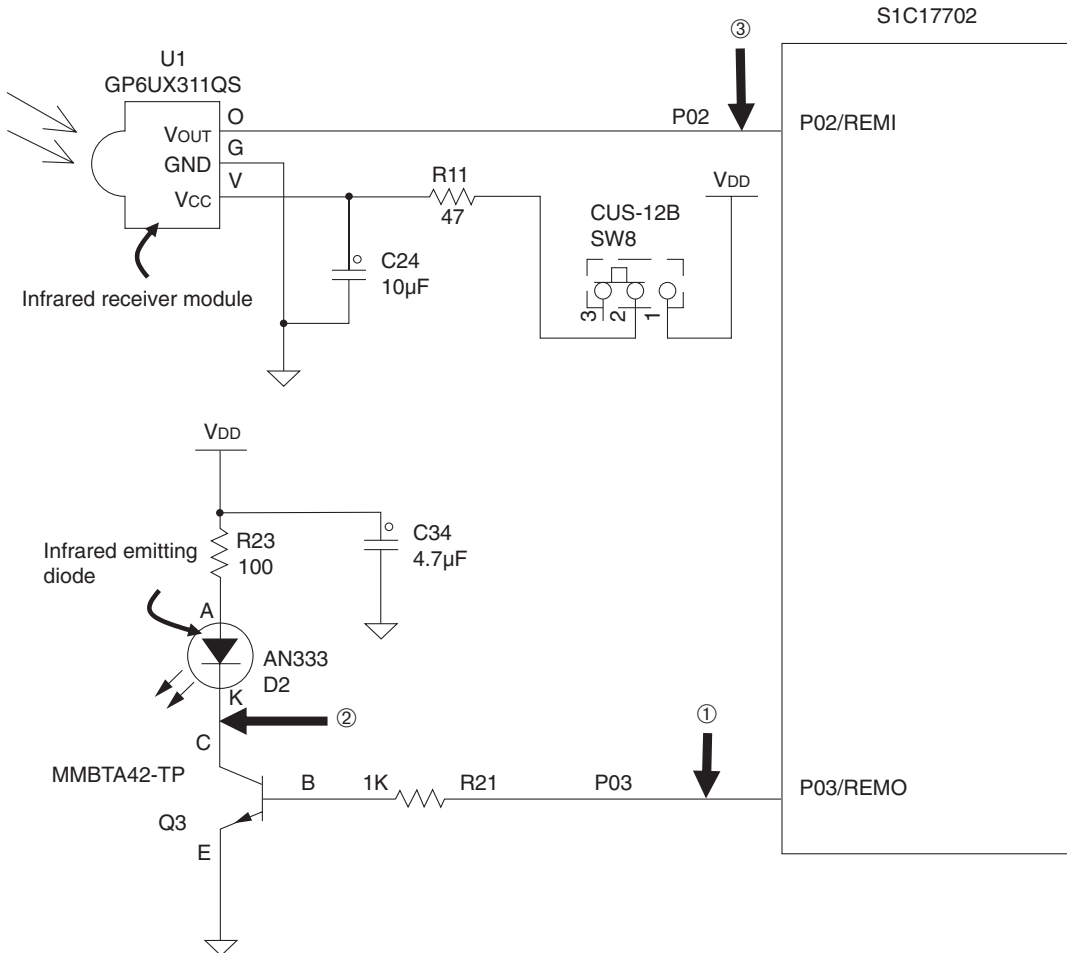
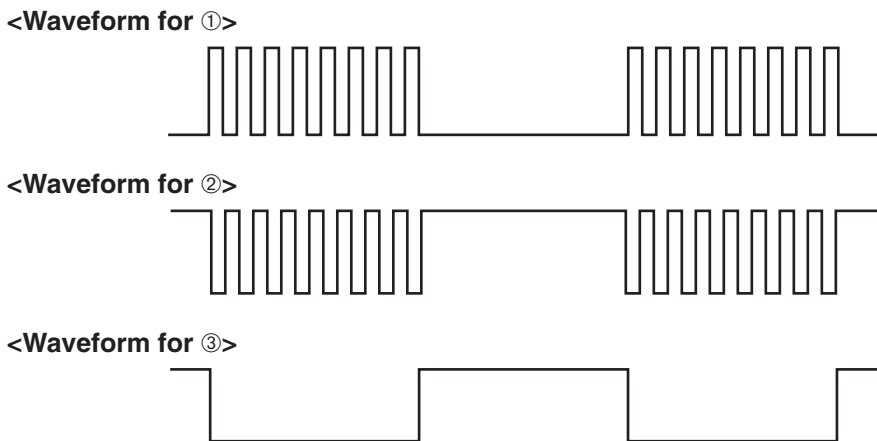

Figure 10.1 Infrared Transmitter/Receiver Module Transmission Circuit
Figure 10.1.2 Infrared Remote Control Transmission Waveforms
The infrared emitting diode (AN333)/infrared receiver module (GP6UX311QS or PNA4702M) mounted on the SVT17702 CPU board are connected to the remote controller for the S1C17702 as shown in Figure 10.1.
Figure 10.1.2 shows the transmission waveforms (observed waveforms ① to ③ in Figure 10.1) for the above example.